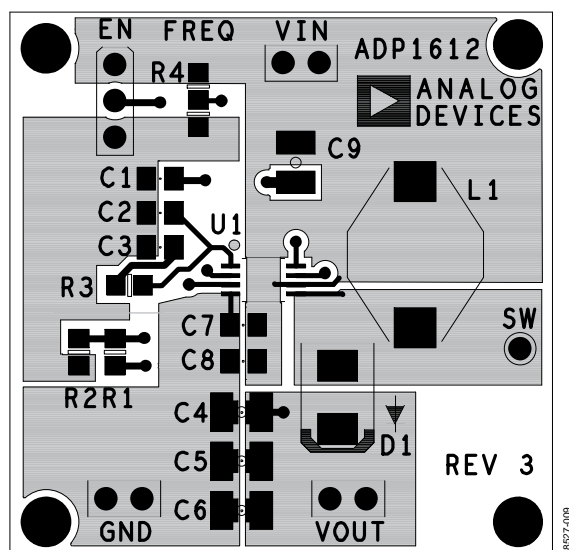

Figure 8. ADP1612/ADP1613 Boost Application PCB Top Layer
- Keep the low ESR input capacitor,  $C_{IN}$  (labeled as C7 in Figure 8), close to VIN and GND. This minimizes noise injected into the part from board parasitic inductance.
- Keep the high current path from  $C_{IN}$  (labeled as C7 in Figure 8) through the L1 inductor to SW and GND as short as possible.
- Keep the high current path from VIN through L1, the rectifier (D1), and the output capacitor,  $C_{OUT}$  (labeled as C4 in Figure 8), as short as possible.
- Connect the soft start capacitor,  $C_{SS}$  (labeled as C1 in Figure 8), as close to the device as possible. Connect the ground of the soft start capacitor to an AGND plane that makes a Kelvin connection to the GND pin.